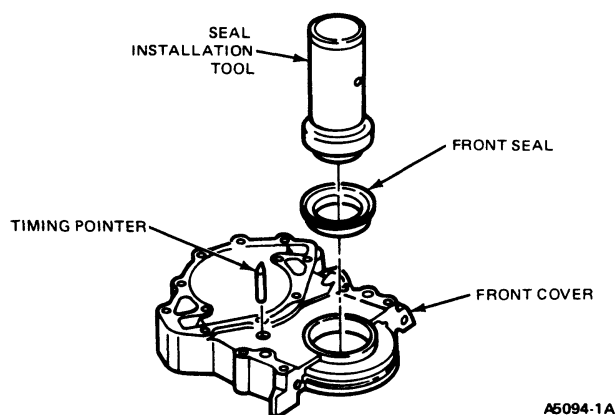

FIG. 31 Installing Crankshaft Front Oil Seal
1. Coat a new seal with grease, then install the seal in the cover (Fig. 31). Drive the seal in until it is fully seated in the recess.